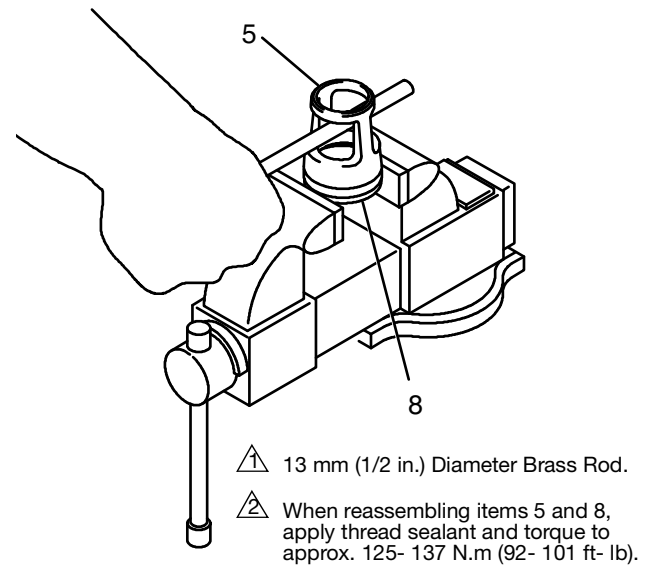

Fig. 9
14. Remove the displacement rod (1) from the vise and inspect it for scratches and scoring by running a finger over the surface.
15. Place the piston seat and guide assembly in the vise and close the jaws on the flats of the seat (8) just tight enough to hold the part. Slide a brass rod through the openings in the piston guide (5) and unscrew it from the seat as shown in Fig. 9. Remove the piston seal (7).
1. Install the intake valve seat (11 ) in the intake housing (17), with the large bevel of the seat facing the bottom of the housing. Lubricate the seal (39\* ) and install it in the housing. Set the intake housing aside.
2. Install the piston seal (7\*) on the piston seat (8). Place the seat in a vise and close the jaws tight enough to hold it securely, without placing too much stress on the part. Apply thread sealant to the threads of the seat and the piston guide (5). Screw the guide onto the seat (8). Tighten using a brass rod until the guide is securely seated, approximately 125- 137 N.m (92- 101 ft- lb). See Figs. 9 and 11.
3. Place the flats of the piston (6) in a vise. Apply thread sealant to the threads of the rod (1) and the top threads of the piston. Set the piston seat/guide assembly onto the piston.
4. Screw the rod (1) into the piston (6) hand tight. Torque the rod to 459-481 N.m (338-354 ft- lb). There will be a small gap between the top of the piston (6) and the shoulder of the rod (1).
5. Apply thread sealant to the bottom threads of the piston and the top threads of the priming piston rod (12). Using an adjustable wrench on the flats of the rod, screw the rod into the piston. Torque to 125-137 N.m (92-101 ft- lb). Be careful not to create burrs on the flats of the rod.